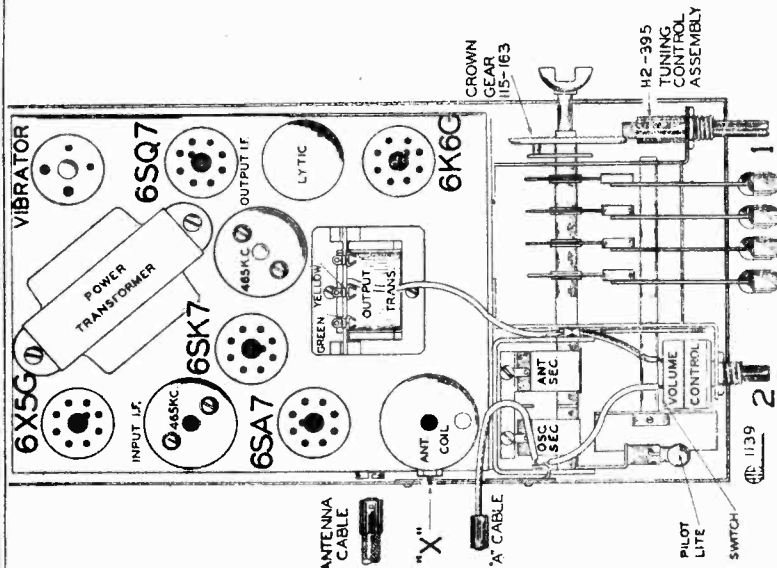

FIG. 3—TOP VIEW
2. Adjust oscillator trimmer of variable condenser to resonance. (This adjustment is the rear section of the two-gang condenser—see top view, Fig. 3).
3. Shift test oscillator to 1400 K.C. and pick up signal by rotating condenser and adjust antenna trimmer (front section of gang condenser) to resonance (see top view, Fig. 3).
3. Move test oscillator connection to grid of 6SA7 tube and adjust trimmer condensers of input I.F. transformer No. 108139 to resonance with oscillator. There are two adjustments on each and they are accessible from the top of the transformer shield and should be adjusted with an insulated screw driver. (See Fig. 3)